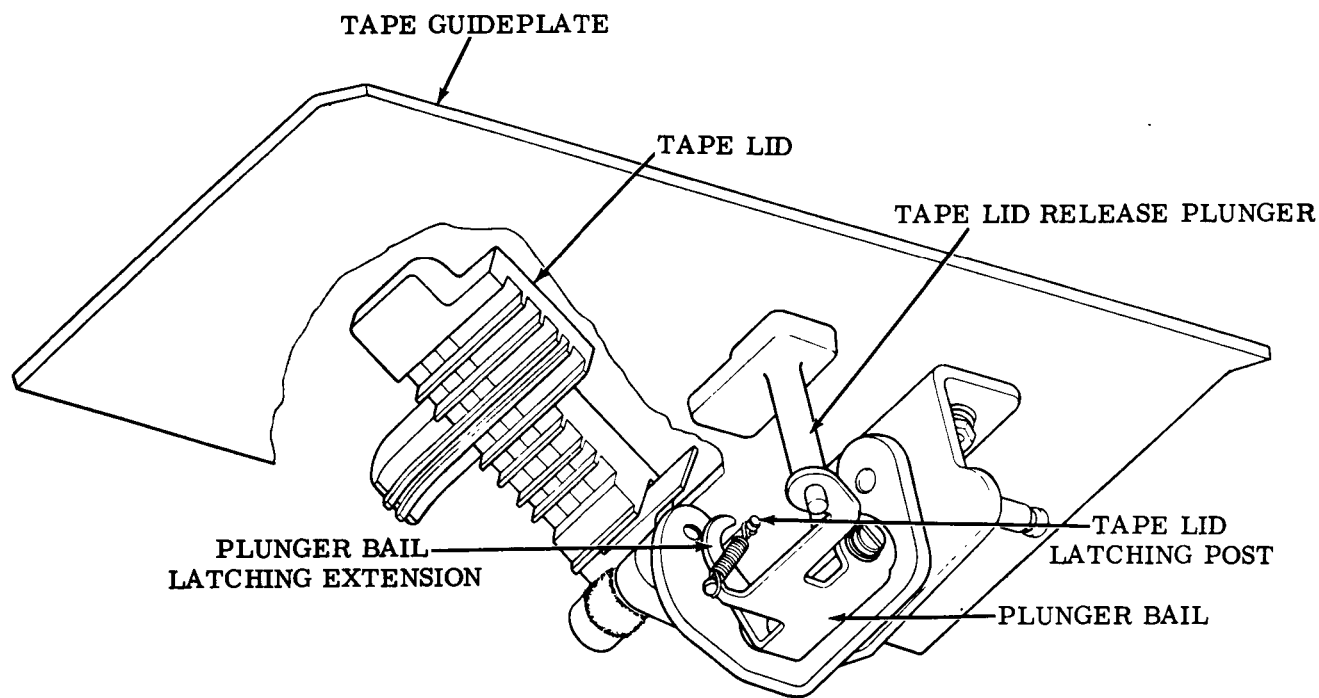

Figure 20 - Tape Lid Mechanism (Bottom View)
6.01 When the tape lid release plunger (Figure 20) is pressed, the shaft portion of the plunger presses against the tape lid plunger